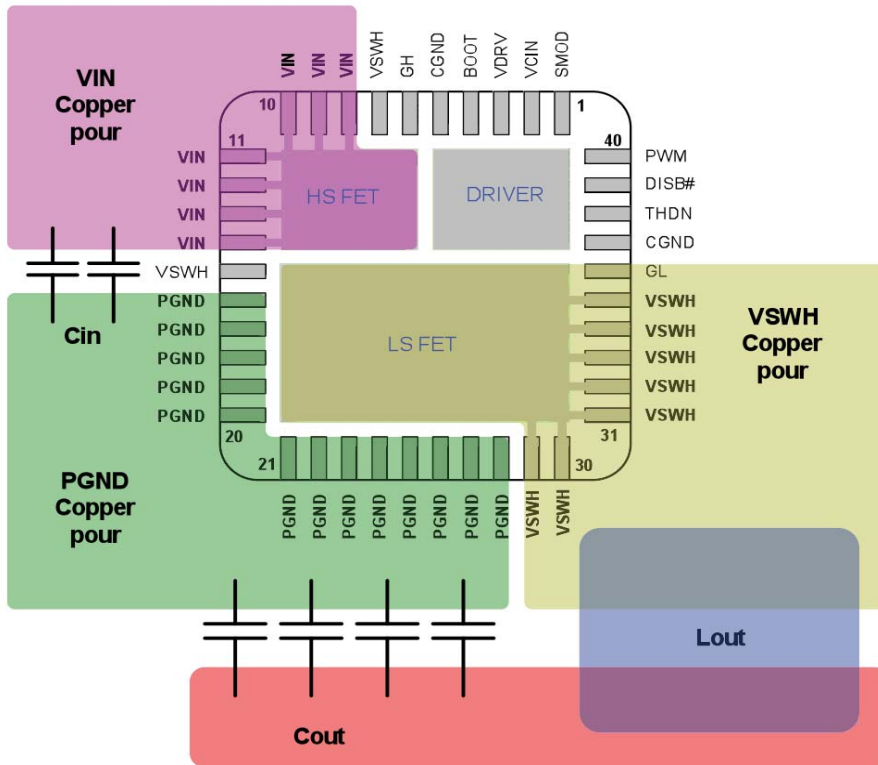

FIGURE 3. PCB LAYOUT FOR MINIMIZING CURRENT LOOPS
- Place multiple 10μF or greater ceramic capacitors directly at device between  $V_{IN}$  and PGND as indicated in Figure 3. This is the most critical decoupling and reduced parasitic inductance in the power switching loop. This will reduce overall electrical stress on the device as well as reduce coupling to other circuits. Best practice is to place the decoupling capacitors on the same PCB side as the device.
- Place PVCC,  $V_{CC}$  and BOOT-PHASE decoupling capacitors at the IC pins as shown in Figure 3.